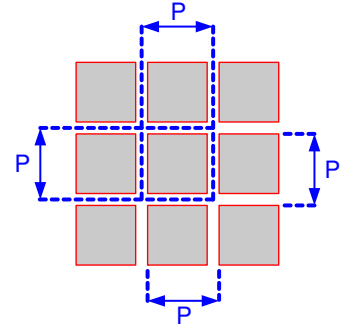

图 6-8. Micromirror Array Physical Characteristics
(1) See 图 6-8.
(2) The structure and qualities of the border around the active array includes a band of partially functional micromirrors called the “Pond Of Mirrors” (POM). These micromirrors are prevented from tilting toward the bright or “on” state but still require an electrical bias to tilt toward “off.”